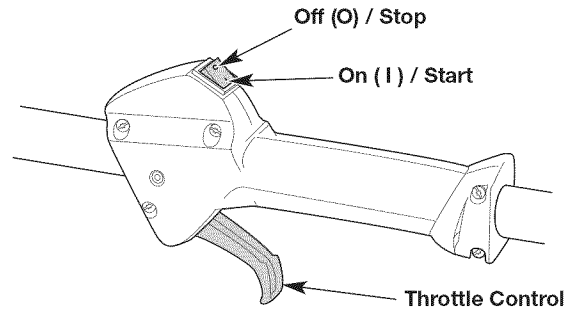
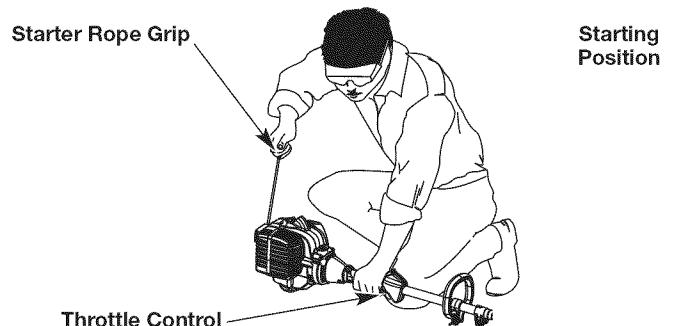

Fig. 9
Fig. 12
WARNING: Avoid accidentally starting the unit. To avoid serious injury, the operator and the unit must be in a stable position when pulling the starter rope (Fig. 12).
NOTE: There is no need to turn the unit on. The On/Off switch is in the ON (I) position at all times (Fig. 9).
5. Crouch in the starting position (Fig. 12).
6. Squeeze the throttle control (Fig. 9) and pull the starter rope with a controlled and steady motion **5 times** (Fig. 12).
2. Press and hold the On/Off switch in the OFF (O) position until the engine comes to a complete stop (Fig. 9).
- NOTE:** There is no need to turn the unit on. The On/Off switch is in the ON (I) position at all times (Fig. 9).
7. Squeeze and hold the throttle control (Fig. 9). Run the Speed Start™ accessory for 2 seconds.